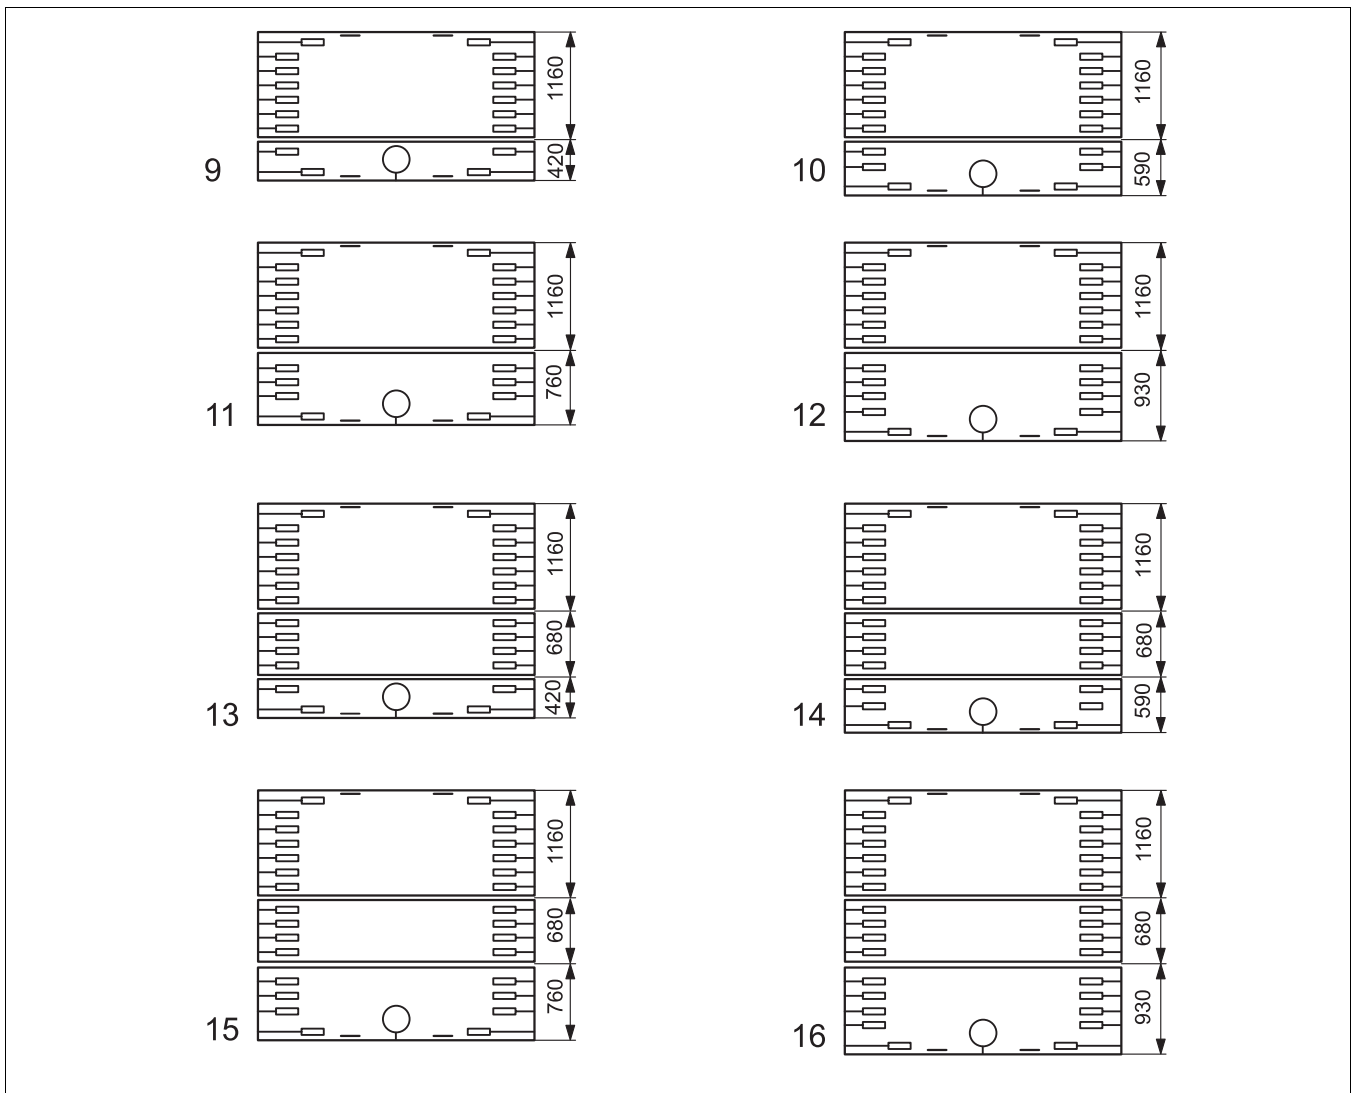

Fig 39 Insulation for the various boiler sizes (dimensions in mm)
- Arrange the insulation on the boiler block as shown in the diagram in → Fig. 39 (the figures to the left of the boiler blocks represent the number of boiler sections).